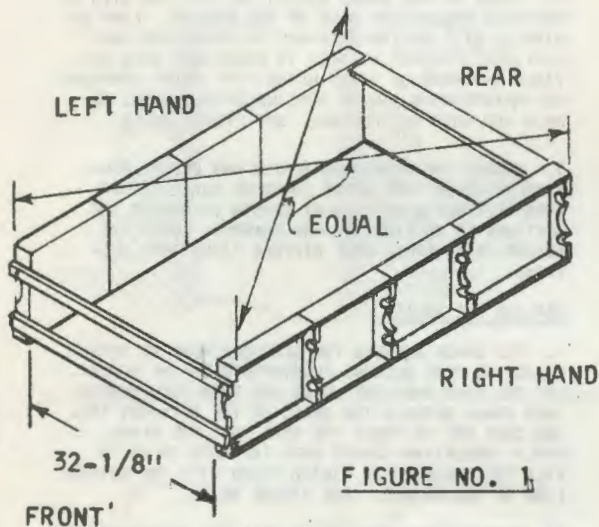

FIGURE NO. 1
2. BOLT STEEL BACK END (3069) AND ERECTING BARS TO SIDEWALLS USING 7/16" X 1-3/4" BOLTS WITH TWO WASHERS AND A NUT AT EACH BOLT HOLE. CHECK TO BE SURE FOUNDATION IS LEVEL. BE SURE SIDEWALLS ARE PARALLEL AND AT RIGHT ANGLES TO BACK END AND ERECTING BARS BY ADJUSTING THE DIAGONAL MEASUREMENTS OF THE FOUNDATION TO BE EXACTLY EQUAL USING A RIGID STICK OR BOARD AS A GAUGE. SEE FIGURE NO. 1.